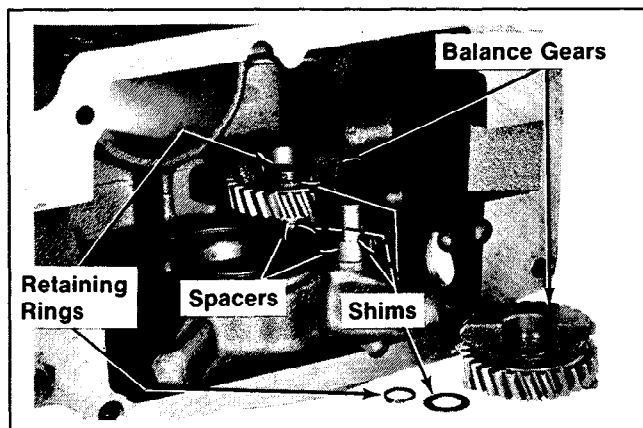

Figure 10-11. Removing Balance Gears.
1. Remove the retaining rings, shims, balance gears with needle bearings, shims, and spacers. Refer to Figure 10-11.